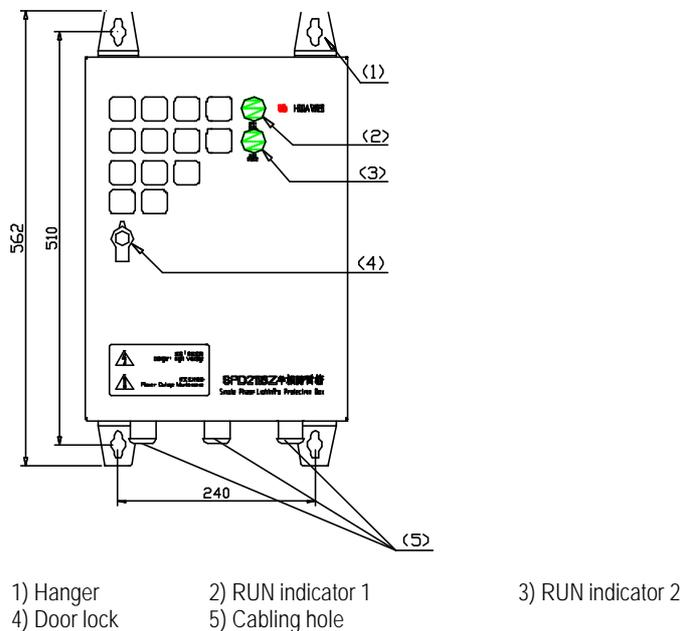

Figure 2-33 AC lightning protection box appearance
AC lightning protection box prevents the AC input power supply from lightning strikes. Its appearance is shown in Figure 2-33.
- 1) Put the lightning protection box against the wall and mark the positions where the four expansion bolts are to be installed. The sizes of holes for expansion bolts are shown in Figure 2-33.